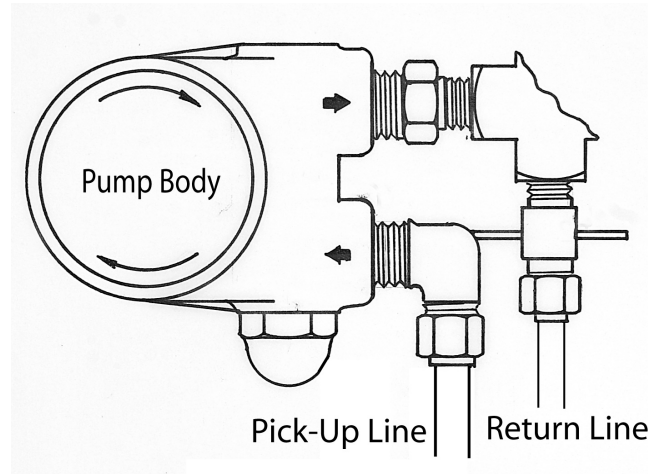

Fig 3
1. Take the Tubing end of the Pick-Up Check Valve w/Filter and feed it up through the larger of the two holes in the Lid. Place the 3/8" Insert into the Tubing and push into the 3/8s Nut, tighten with wrench. (Fig. 3, pg. 6).